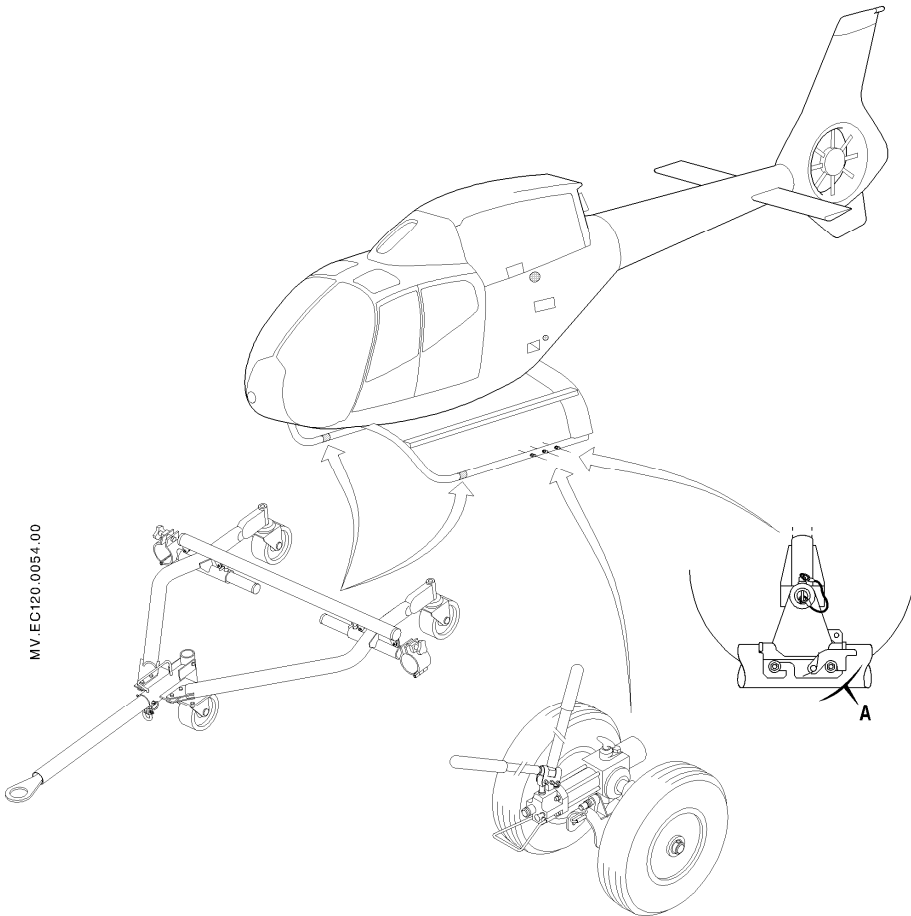

Figure 1: Towing and manual positioning device
- Lift the aircraft with the hydraulic towing and manual positioning device (Figure 1)